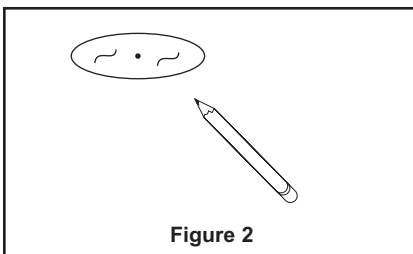

Figure 2
**Step 1.** Locate center of proposed opening on ceiling and use template to mark and accurately cut a 6-3/4" opening. (Fig. 2).